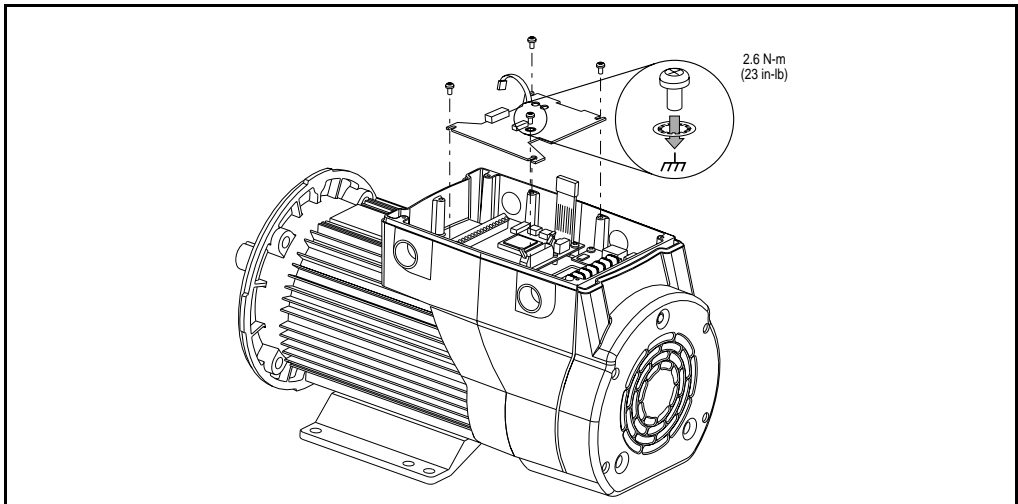

Figure 2.2 – Mounting the DeviceNet Option Board
- Step 4. Mount the DeviceNet option board. Tighten all screws to 2.6 Nm (23 in-lb.). Use the washer in the location shown in figure 2.2 to ground the option board.